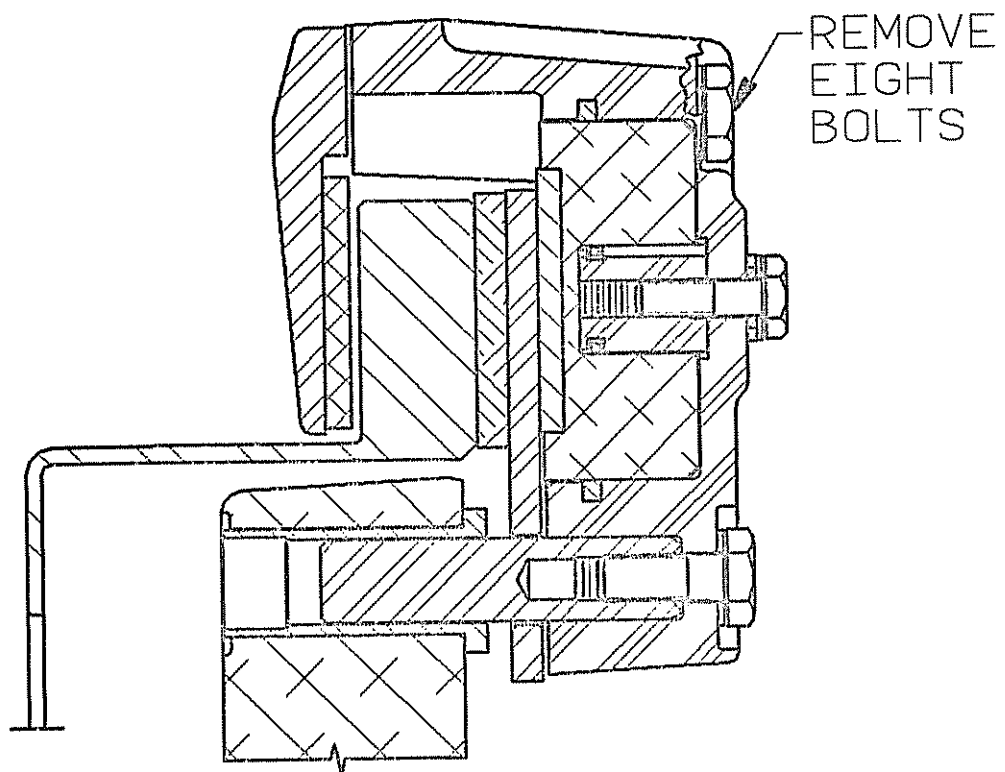

Figure 201
- B. Remove snap ring and hubcap from outer wheel half subassembly. Remove and retain the bolts which fasten the two backplates to the brake housing. (See Figure 201)